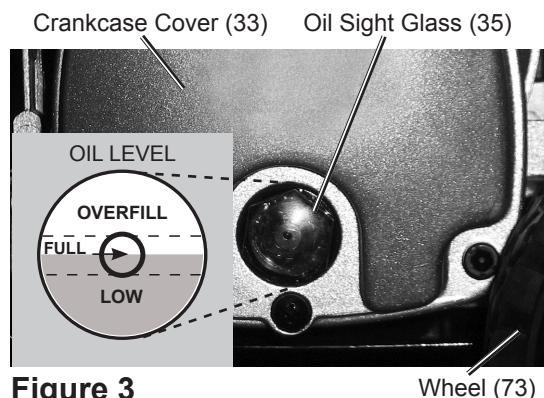

Figure 3
2. The oil level should be at the center of the "full" level on the oil level sight glass, as shown in Figure 3. Add oil as needed to maintain this level. Do not let the oil level go below the center dot (LOW as shown above) and do not overfill the oil so that it is above the center dot (OVERFILL as shown above) on the sight glass.
- a. Remove the Oil Plug (39).
- b. Using a funnel to avoid spills, pour enough oil into the Pump Crankcase (41) to reach the "full" level in the Oil Sight Glass (35).